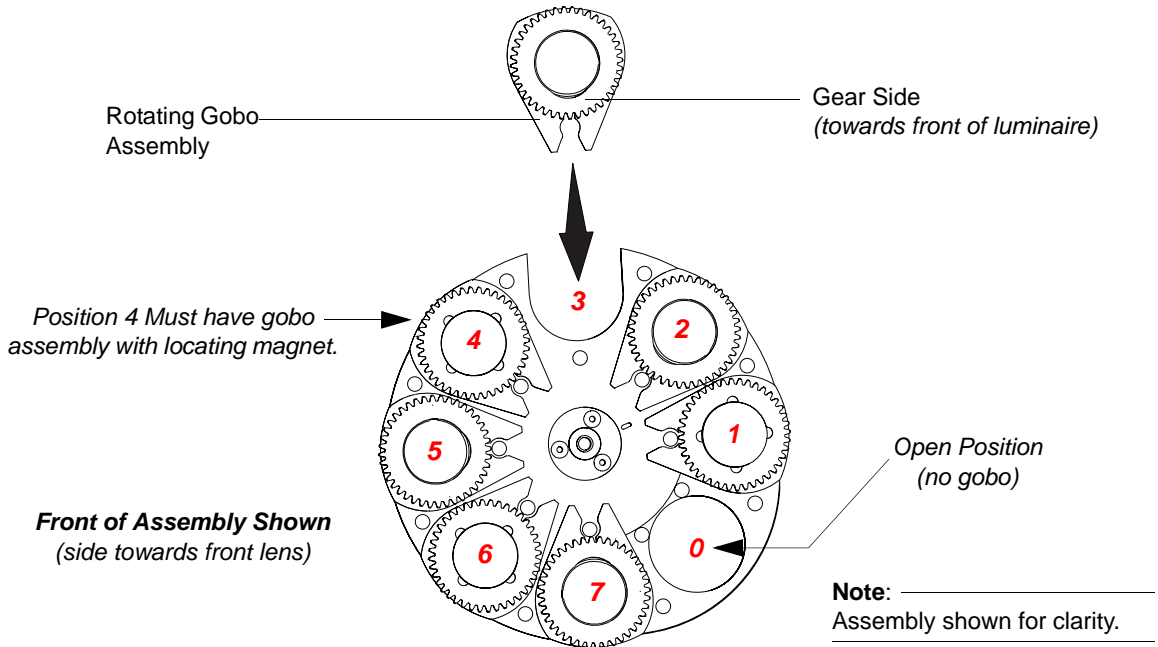

Figure A-9: Rotating Gobo Wheel - Gobo Installation.
Step 5. At position where rotating gobo was removed, place replacement rotating gobo over open slot (as shown in Figure A-9), slide into wheel, and gently snap gobo into place.